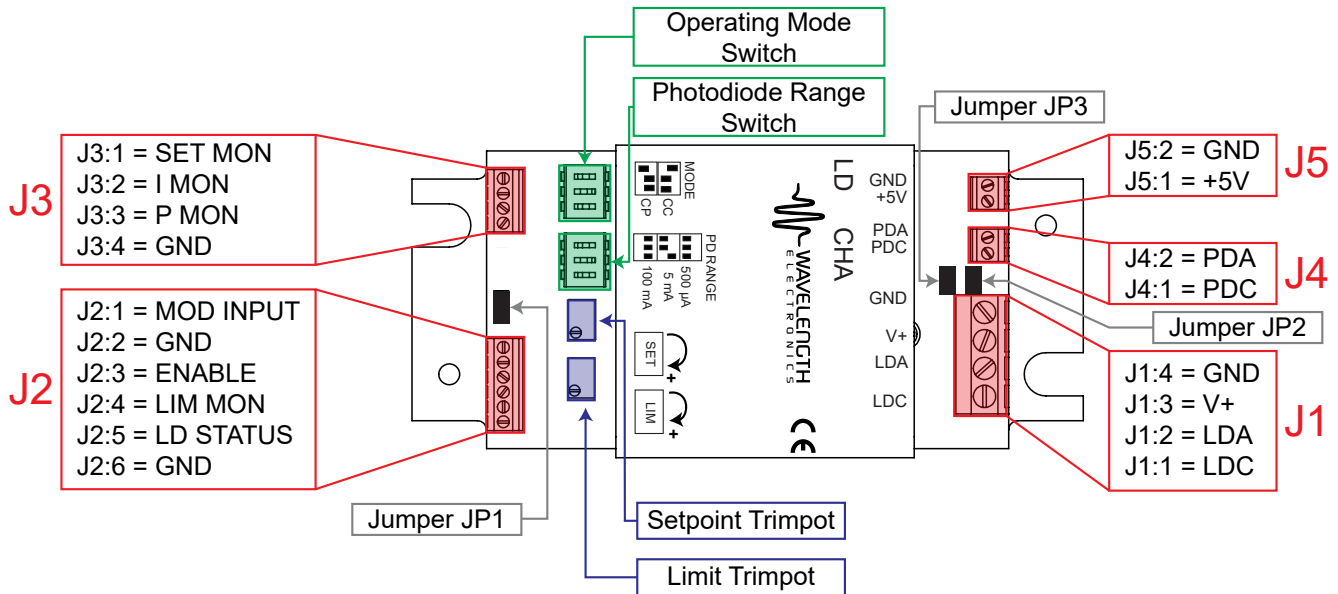

Figure 7. LDxCHA Driver Adjustments and Controls
Onboard controls are on the top of the LDxCHA and must be set according to the operation mode. The controls are illustrated in **Figure 7**.
Choosing between Constant Current (CC) Mode and Constant Power (CP) Mode is done by using the upper set of DIP switches on the LDxCHA (as seen above in **Figure 7**). Constant Power mode operation requires a photodiode.
In Constant Power Mode only, three photodiode feedback current ranges are available on the LDxCHA drivers. Choosing one of these photodiode ranges is done by using the lower set of DIP switches (as seen above in **Figure 7**). Reference the datasheet for your laser diode to find the nominal photodiode current, and set the PD RANGE switch as follows:
There are three jumpers located on the circuit board, labeled JP1, JP2, and JP3 (see also **Figure 7**). They are all two position jumpers, so they are either installed, or uninstalled. The LDxCHA ships with all jumpers installed by the factory. Jumper functionality is described in **Table 3 on page 5**.
Reference **Figure 7** for control locations on the LDxCHA: